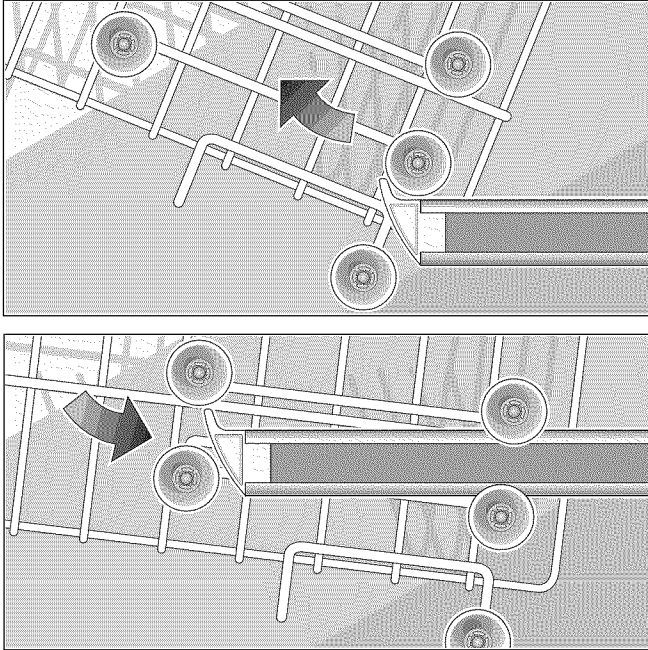

Figure 8. Top drawing: Upper Rack Removal. Lower drawing: Upper Rack Replacement.
- a. First empty upper rack and pull rack partially out to point where rack can be lifted upward as shown in upper illustration of **Figure 8**.